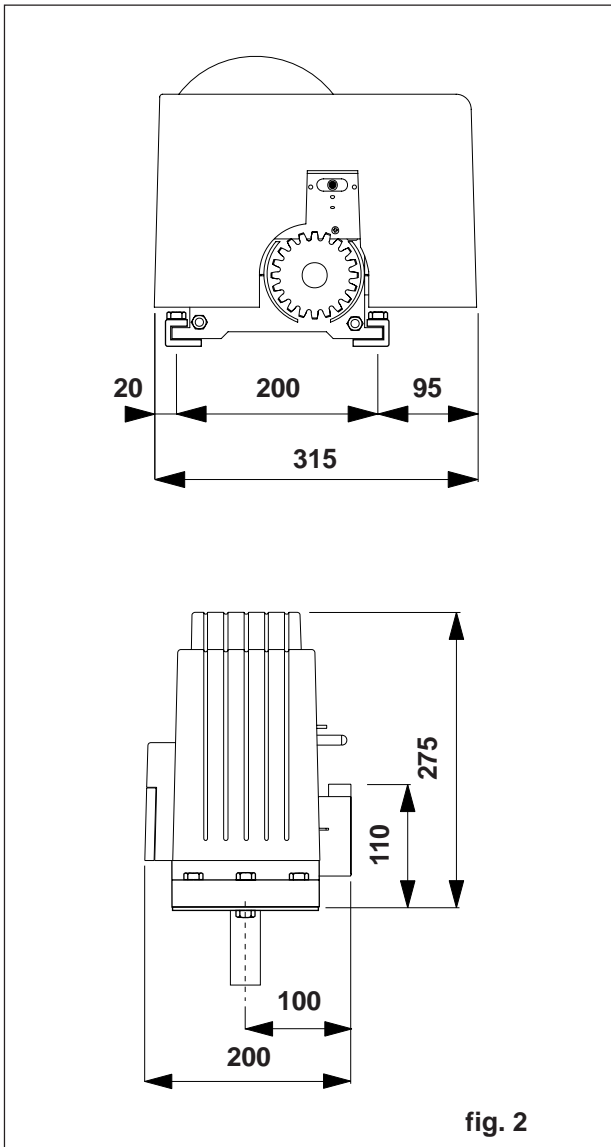

fig. 2
2.2 Geared motor references (fig. 2)